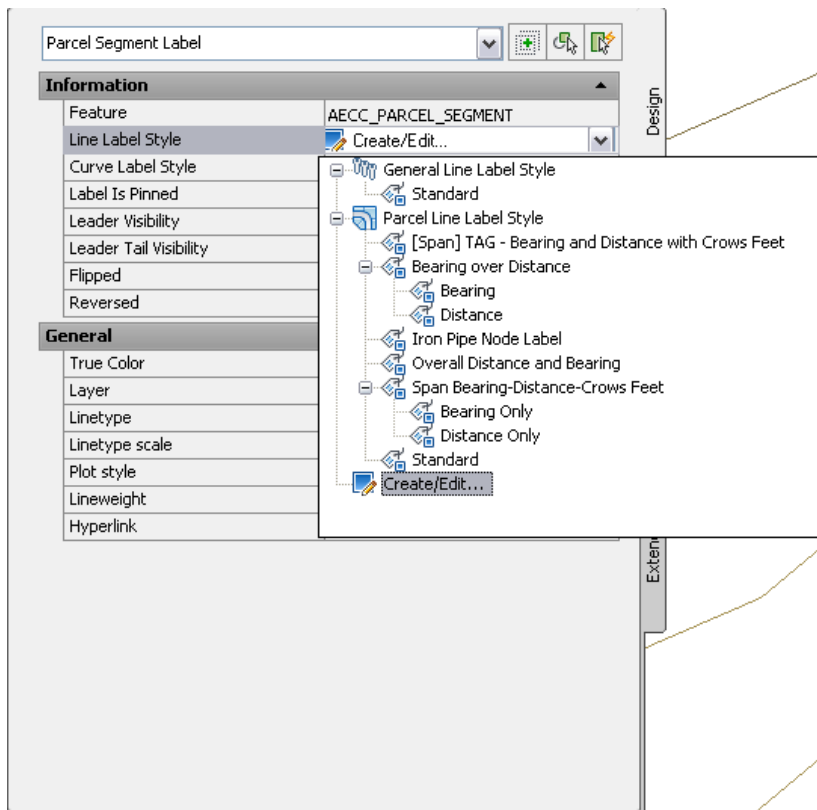
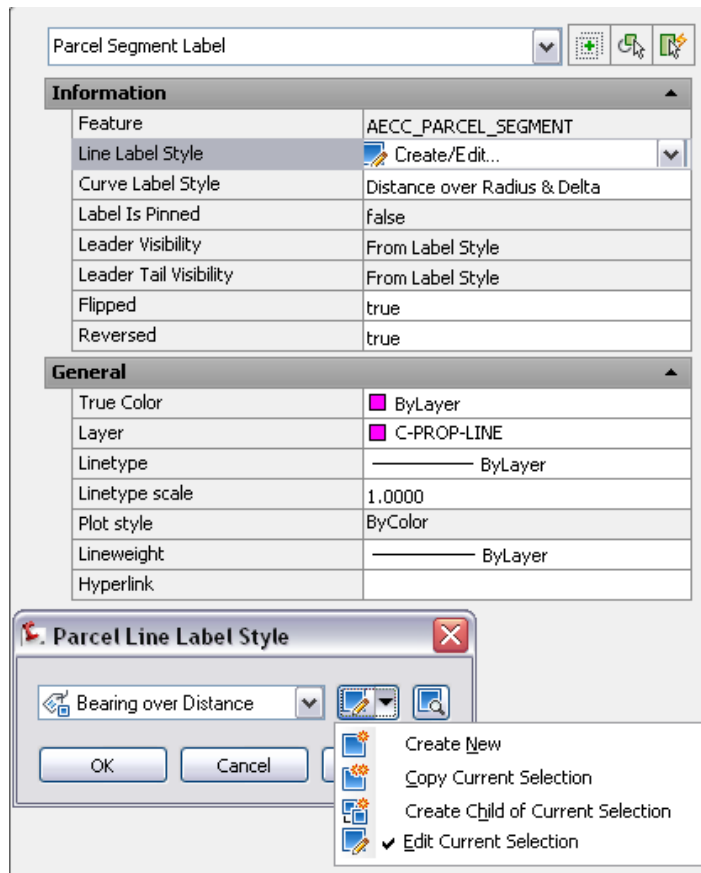

Figure 13: Available parcel line label styles
Figure 14: Parcel line label style options
- 3 In the Properties palette, select the Line Label Style pull-down menu as shown in figure 13.
From the styles pull-down menu in the Properties palette, select Create/Edit (as shown in figure 13) to access the Object (Parcel Line Label) Style dialog box as shown in figure 14.